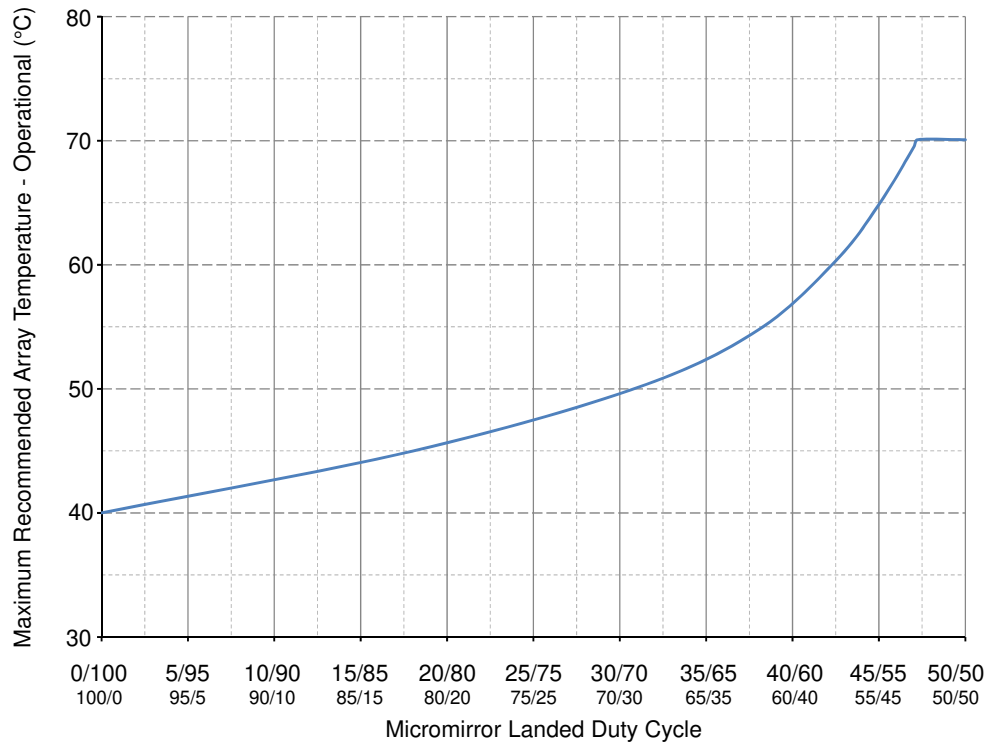

Figure 1. Maximum Recommended Array Temperature - Derating Curve
(13) Long-term is defined as the usable life of the device.
(14) Per Figure 1, the maximum operational array temperature should be derated based on the micromirror landed duty cycle that the DMD experiences in the end application. See Micromirror Landed-On/Landed-Off Duty Cycle for a definition of micromirror landed duty cycle.
(15) Array temperatures beyond those specified as long-term are recommended for short-term conditions only (power-up). Short-term is defined as cumulative time over the usable life of the device and is less than 500 hours.